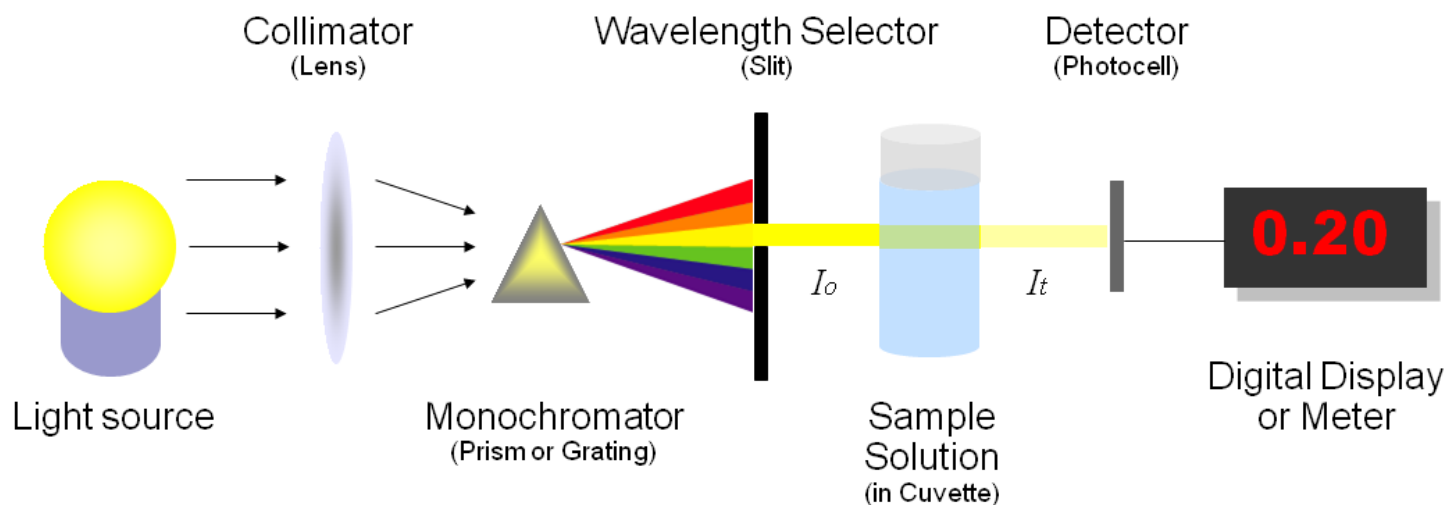
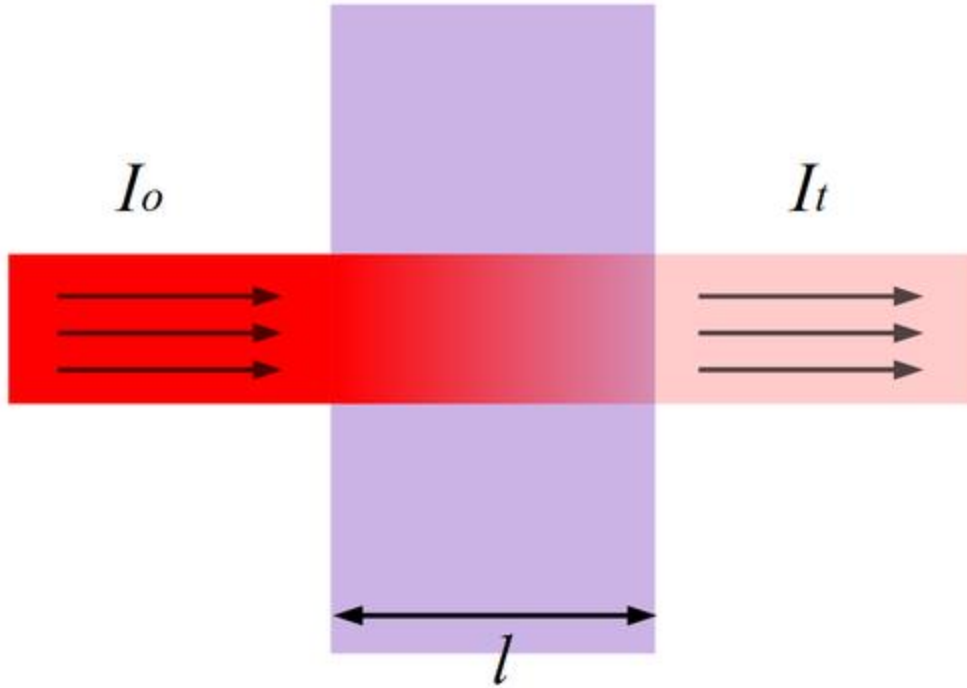

Figure 1: Basic structure of spectrophotometers (illustrated by Heesung Shim)
Figure 5: Transmittance (illustrated by Heesung Shim)
Figure 1 illustrates the basic structure of spectrophotometers. It consists of a light source, a collimator, a monochromator, a wavelength selector, a cuvette for sample solution, a photoelectric detector, and a digital display or a meter. Detailed mechanism is described below. Figure 2 shows a sample spectrophotometer (Model: Spectronic 20D).
- **Spectrometer:** It produces a desired range of wavelength of light. First a collimator (lens) transmits a straight beam of light (photons) that passes through a monochromator (prism) to split it into several component wavelengths (spectrum). Then a wavelength selector (slit) transmits only the desired wavelengths, as shown in Figure 1.
- **Photometer:** After the desired range of wavelength of light passes through the solution of a sample in cuvette, the photometer detects the amount of photons that is absorbed and then sends a signal to a galvanometer or a digital display, as illustrated in Figure 1.
Referring back to Figure 1 (and Figure 5), the amount of photons that goes through the cuvette and into the detector is dependent on the length of the cuvette and the concentration of the sample. Once you know the intensity of light after it passes through the cuvette, you can relate it to transmittance (T). Transmittance is the fraction of light that passes through the sample. This can be calculated using the equation:
Where absorbance stands for the amount of photons that is absorbed. With the amount of absorbance known from the above equation, you can determine the unknown concentration of the sample by using Beer-Lambert Law. Figure 5 illustrates transmittance of light through a sample. The length l